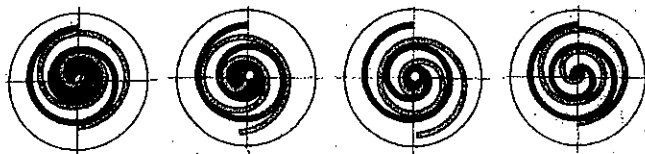

Figura 32
2. COMO TRABALHA O COMPRESSOR SCROLL. *Figura 32.*